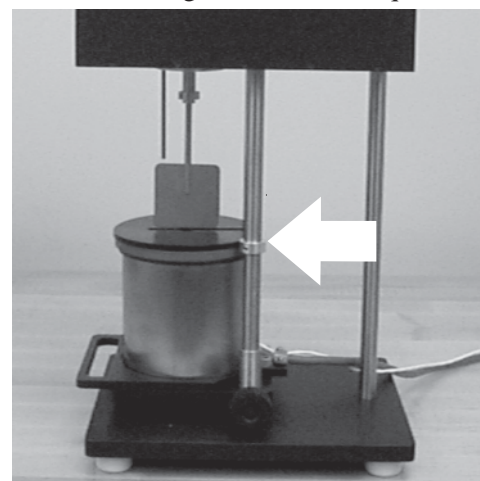

Figure 3: MFV-1000 with stop collar highlighted
1. Use a 5/64" (#8) or 2 mm Allen wrench to loosen the stop collar set screws until it slides freely on the rail (see *Figure 3*).